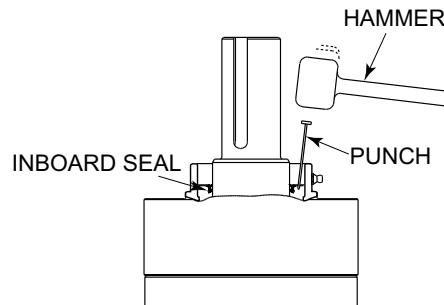

Figure 6.2.1.3 Piercing of Inboard Seal with Punch
7. From the pierced hole use the punch to pry the seal out of the housing. Reference **Figure 6.2.1.4**.